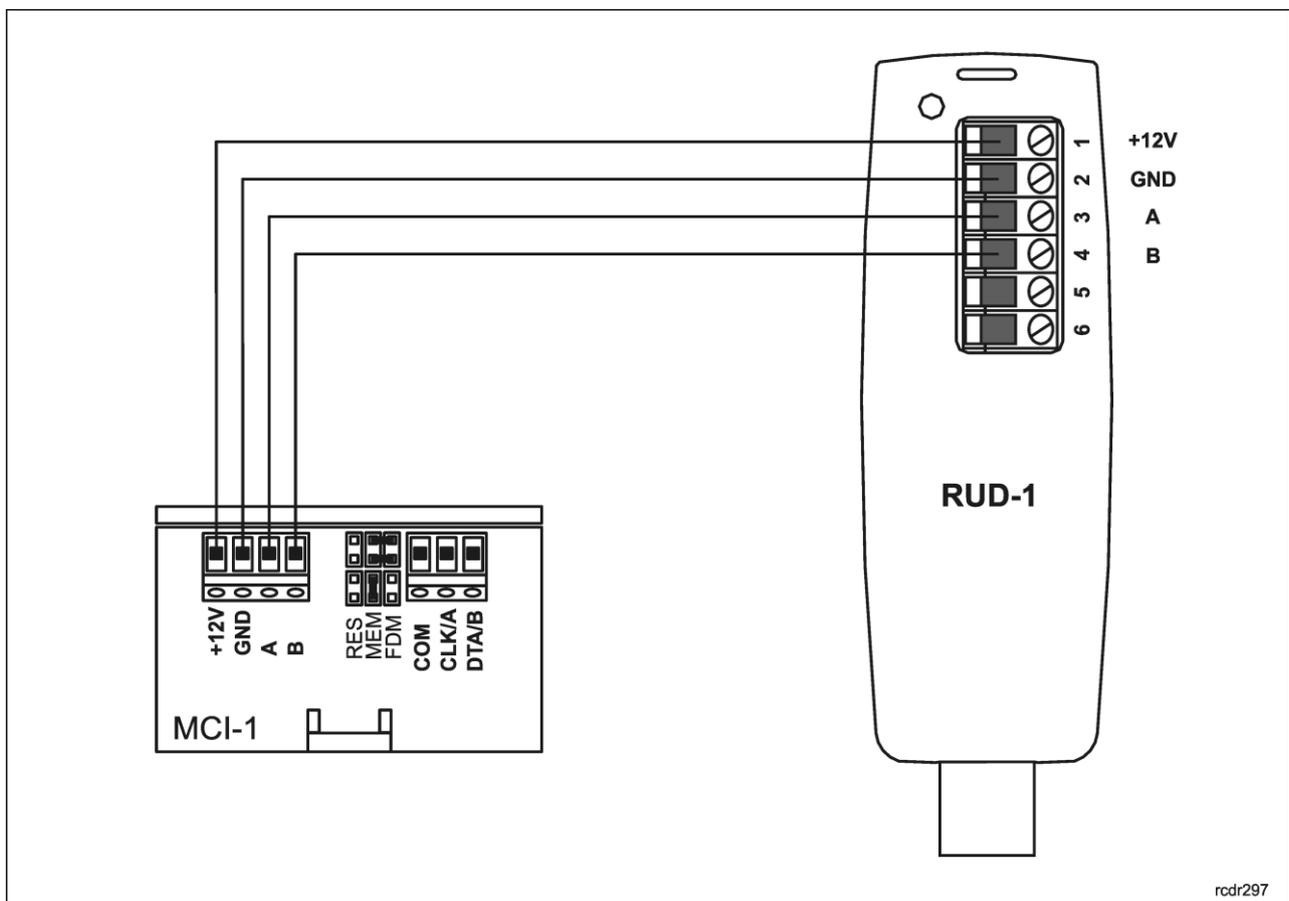

Fig. 5 Connection of MCI-1 to RUD-1 interface (configuration)
- Make connections as in fig. 5